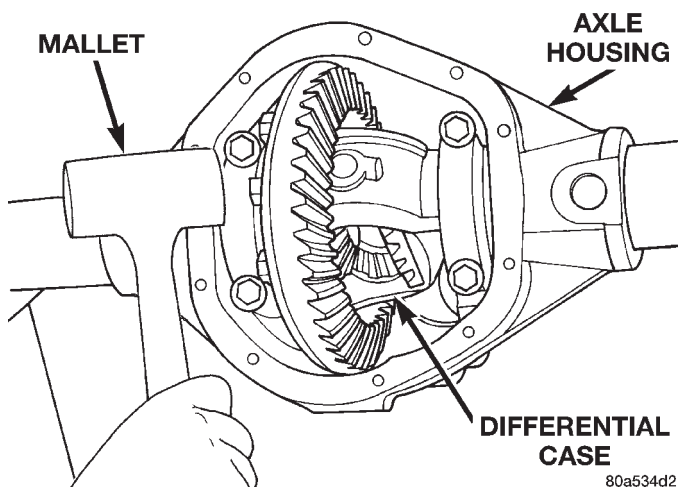
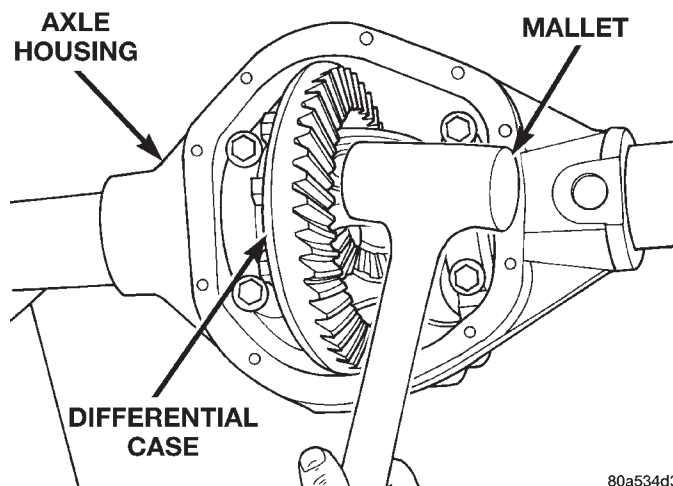

Fig. 69 Seat Pinion Gear Side Differential Dummy Side Bearing
Fig. 70 Seat Ring Gear Side Differential Dummy Side Bearing
- (7) Using a dead-blow type mallet, seat the differential dummy bearings to each side of the axle housing (Fig. 69) and (Fig. 70).
(15) Rotate dial indicator out of the way on the guide stud.
(16) Remove differential case and dummy bearings from axle housing.
(17) Install the pinion gear in axle housing. Install the pinion yoke, or flange, and establish the correct pinion rotating torque.
(18) Install differential case and dummy bearings D-348 in axle housing (without shims), install bearing caps and tighten bolts snug.
(19) Seat ring gear side dummy bearing (Fig. 70).